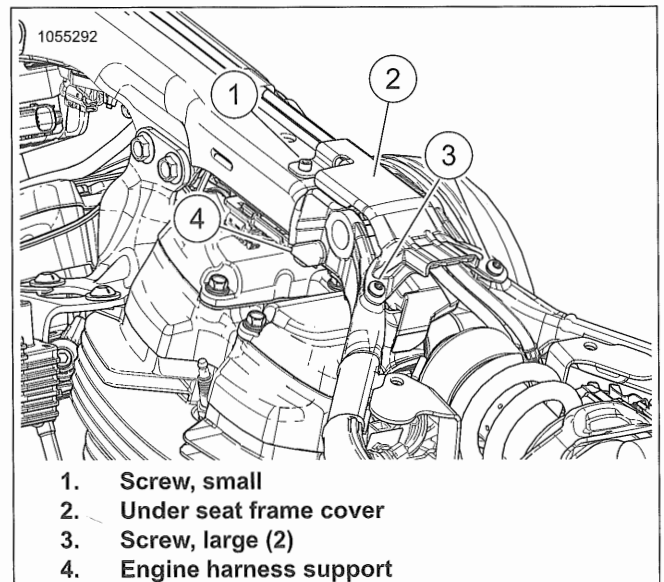

Figure 7-159. Under Seat Frame Cover (Typical)
6. See Figure 7-159. Remove under seat frame cover (2).
- a. Remove small screw (1).
- b. Remove both large screws (3).
7. Disconnect and lower engine harness support (4).
3. See Figure 7-159. Move engine harness support inward and connect to backbone (4).
4. Install under seat frame cover (2).
- b. Install large screws (3). Hand tight.